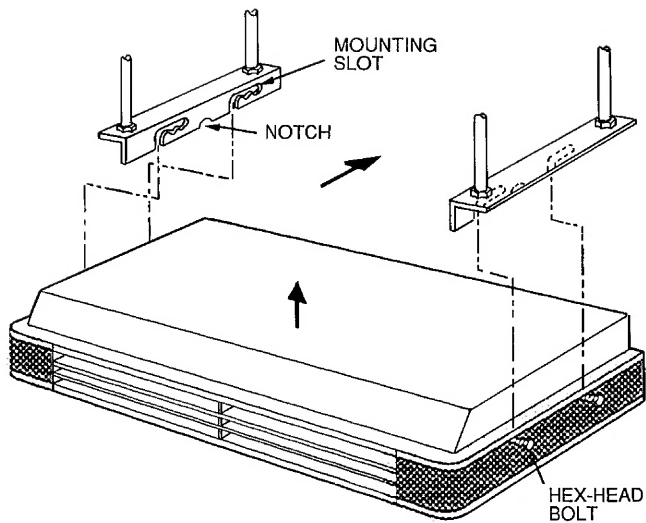

Fig. 11 — Hanging 619C Unit
6. Lift the unit into place, and fit the hex-head bolts on sides of indoor unit into slit grooves of mounting brackets (Fig. 11). Ensure unit is mounted level to assure proper drainage.